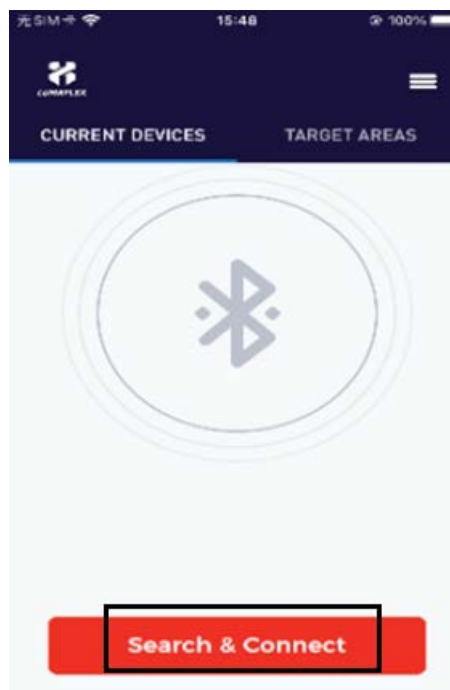

Figure 4.6-2
- Open the app and click "Search & Connect" to search for nearby devices. (See figure 4.6-2)